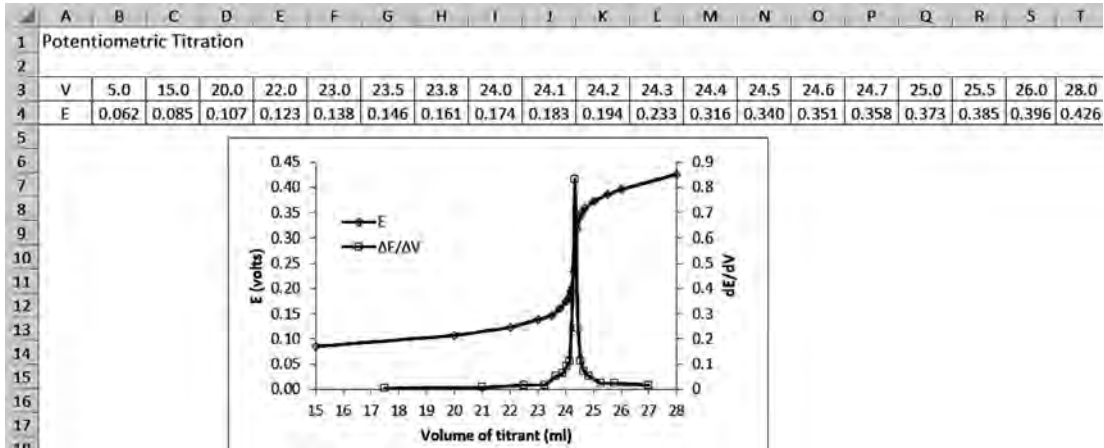

FIGURE 7.38
11. Using the data shown and a range to compute  $\Delta E/\Delta V$ , create the chart in Figure 7.38.